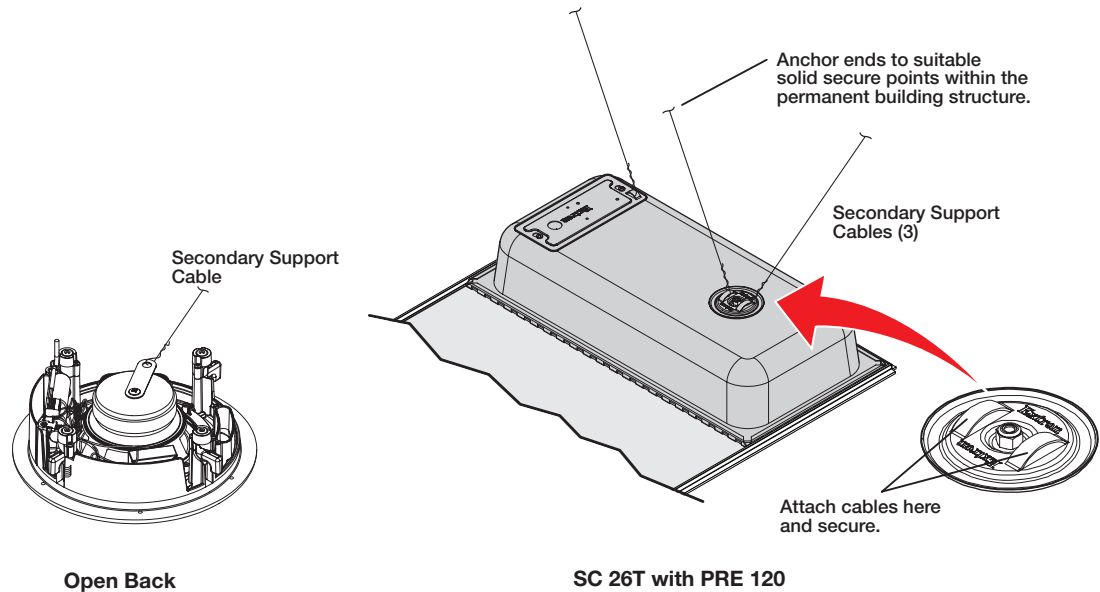

Figure 21. Attaching Secondary Support Lines
20. Attach secondary support lines — If required, attach all of the secondary support lines as shown in figure 21.